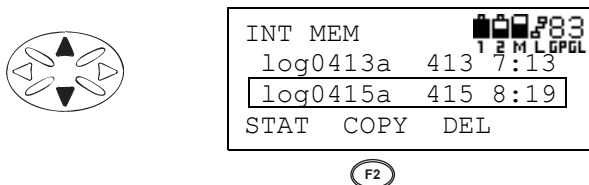

Figure 3-99. Scroll through Files to Select
- Press the **up/down cursor key** to scroll through the files to select the desired file, then press **F2** (COPY) to copy (Figure 3-99).